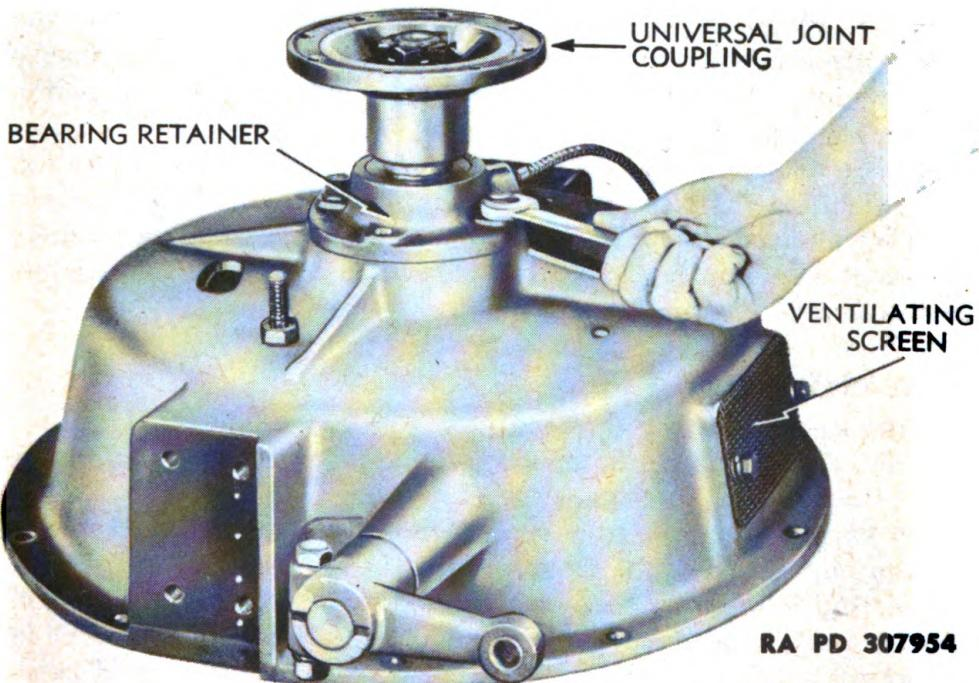
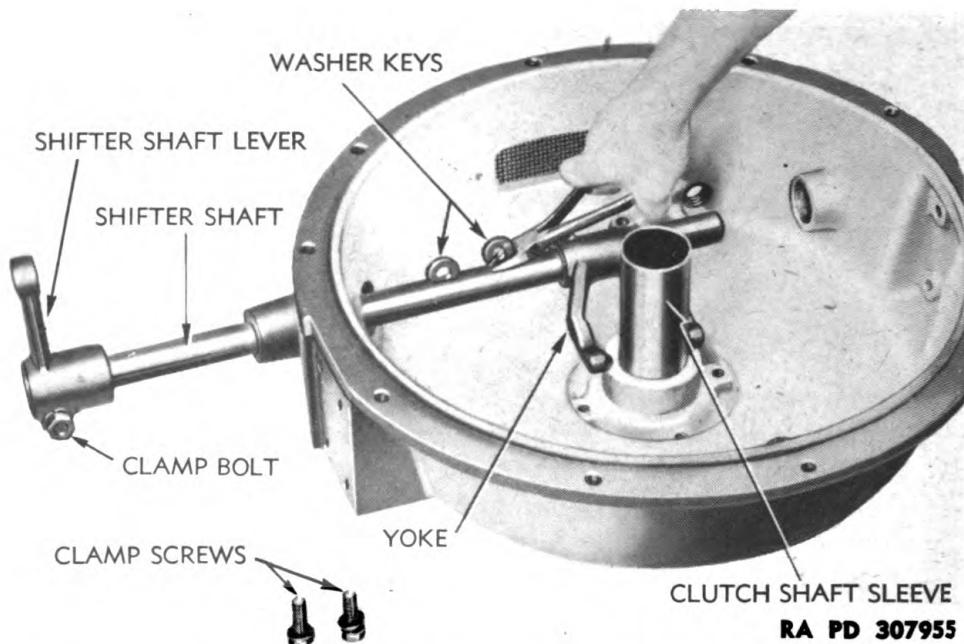

Figure 147 – Removing Bearing Retainer Cap Screws
Figure 148 — Removing Keys From Clutch Shifter Shaft
(2) REMOVE CLUTCH SHAFT ASSEMBLY (fig. 147). Remove four cap screws from clutch shaft bearing retainer. Pull or tap clutch shaft
(3) REMOVE CLUTCH SHIFTER SHAFT ASSEMBLY (fig. 148). Remove the two clamp screws from clutch shifter yoke and drive shaft and shifter yoke sideways until the two washer keys can be removed from shaft. Then pull shaft on out of housing and shifter yoke. Drive or press shaft bushings from bosses in sides of housing if worn
(4) REMOVE SLEEVE FROM CLUTCH HOUSING. Use arbor of proper diameter and drive or press clutch shaft sleeve (fig. 148) out of housing. Remove two cap screws and washers and lift ventilating screen (fig. 147) from top of housing.
(3) REMOVE LEVER FROM CLUTCH SHIFTER SHAFT. Loosen clamp bolt in lever (fig. 148) and tap lever off shaft. Remove key from slot in shaft.
(1) **INSTALL CLUTCH SHAFT SLEEVE AND VENTILATING SCREEN.** Install ventilating screen on top of clutch housing (fig. 147) with two cap screws with lock washers. Drive or press clutch shaft sleeve (fig. 148) into housing.
(2) **INSTALL SHIFTER SHAFT AND YOKE.** Drive or press shifter shaft bushings (fig. 149) into bosses in housing. Ream, if necessary, for slip fit of shifter shaft in bushings. Insert end of shifter shaft through side of housing from which boss extends out (fig. 148). Start shifter yoke onto shaft with slot in top of yoke in line with key slots in shaft. Tap washer keys into the two slots in shaft, then tap shaft through yoke and through bushing in other side of housing. Install and tighten clamp screws in shifter yoke. Test to make sure shaft turns easily.
(3) **INSTALL CLUTCH SHAFT ASSEMBLY.** Cement gasket to clutch shaft bearing retainer. Slide shaft through housing and clutch shaft sleeve from rear of housing. Turn retainer so lubricating tube will point towards top of housing, then attach retainer to housing with four cap screws with lock washers (fig. 147).